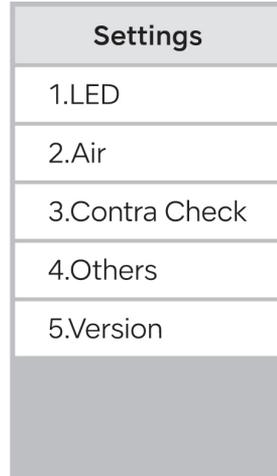

Figure 19. Main menu
1. Touch , and Figure 19 screen is displayed.